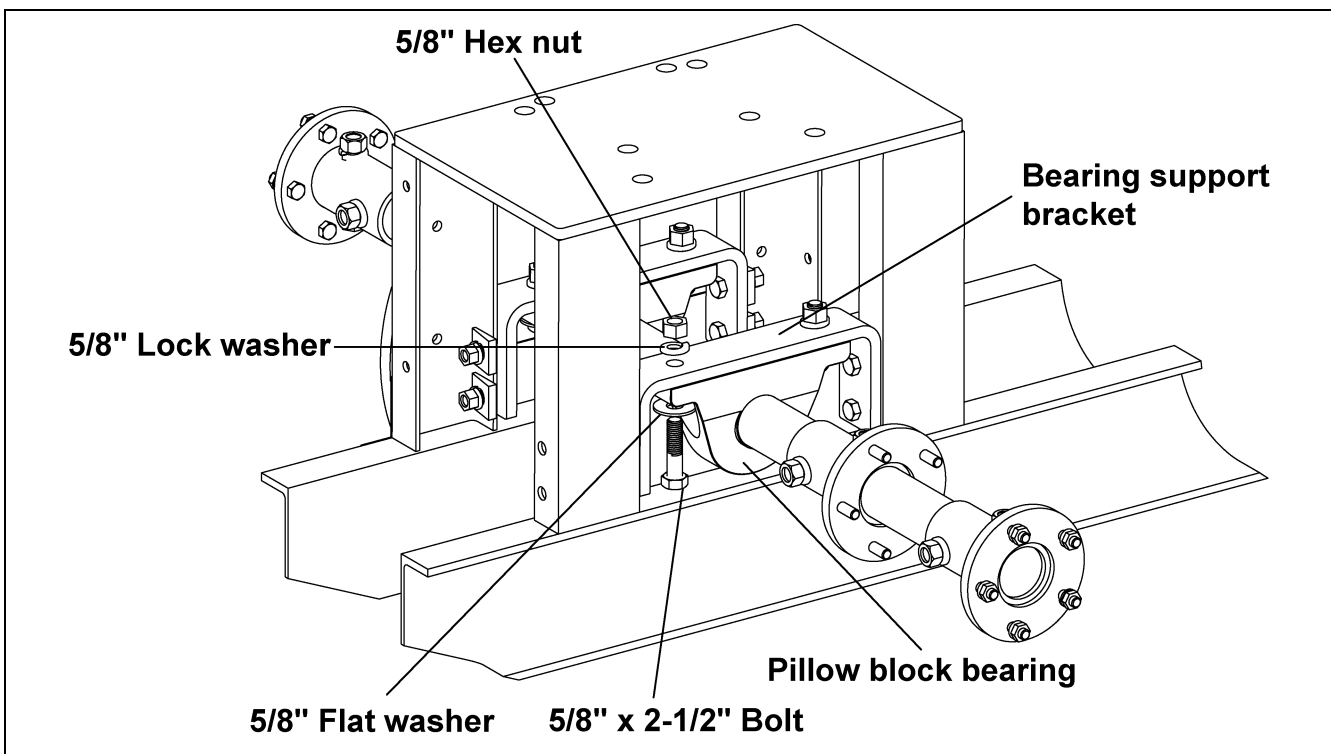

Figure 5K
- F. Attach pillow block bearings to the bearing support brackets using 5/8" x 2-1/2" bolts, 5/8" lock and flat washers and 5/8" hex nuts. (See Figure 5K.)